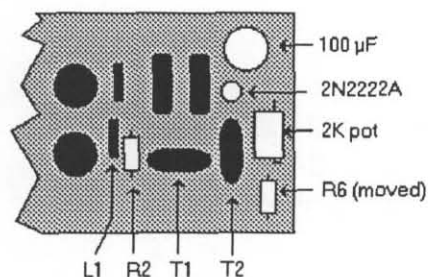

Figure 2. Approximate layout of new bias circuit components on the final amplifier board. The board connector (not shown) would be at the bottom of the figure.
I was able to mount the components for the new bias circuit on the Power Amplifier board of my 509 by performing some rather minor (and reversible) surgery. The new component layout is approximately as shown in Figure 2. I have not installed this modification in a 505 or 515; with those rigs, you are on your own!
6. Do a "test layout" of the parts for the new bias circuit on the board to see where they will best fit. I drilled holes to mount the 100 uF cap in the upper corner of the board, as shown in Figure 2. I glued a small multi-turn 2K pot "dead bug" style along the edge of the board. A single turn pot is OK; just make sure you can get to it when the board is re-mounted. I drilled a hole for the 2N2222A emitter, but wired the base and collector above the board.
7. Drill the necessary mounting holes, including new mounting holes for the 1/8 Watt replacement for R6 (27 Ohms) as shown in Figure 2.